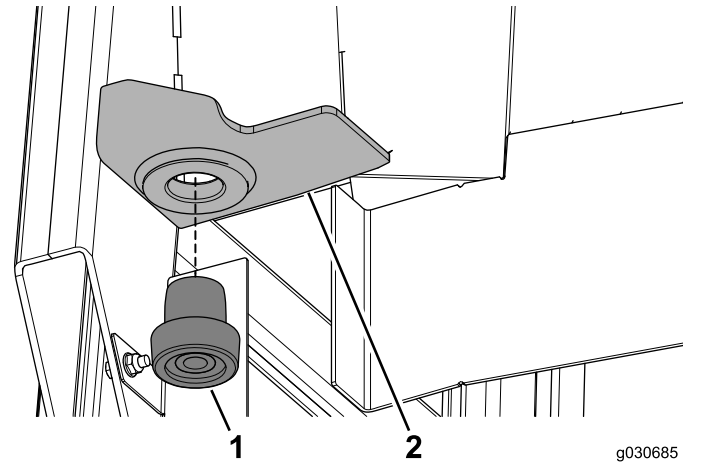

Figure 11
1. Press a rubber isolator into the hole of the left, rear mount on the cab frame (Figure 11).